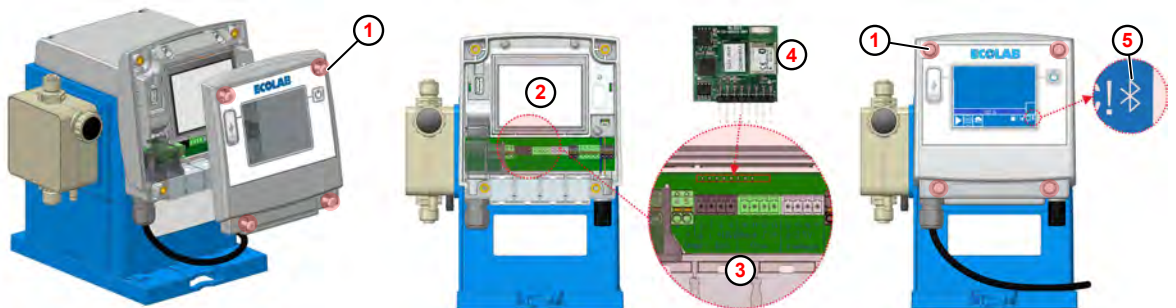

Fig. 117: Upgrading with Bluetooth PCB
1. Loosen the cover screws (Fig. 117 , ①) with a Torx spanner (TX25).
2. Pull cover ② towards you and remove.
3. Remove the connectors numbered 4-5, 6-8, 10-13 and 14-17 ③ to create room to install the Bluetooth PCB.
4. Push the Bluetooth board ④ into the slot.
7. Place the front cover ② correctly on the housing.